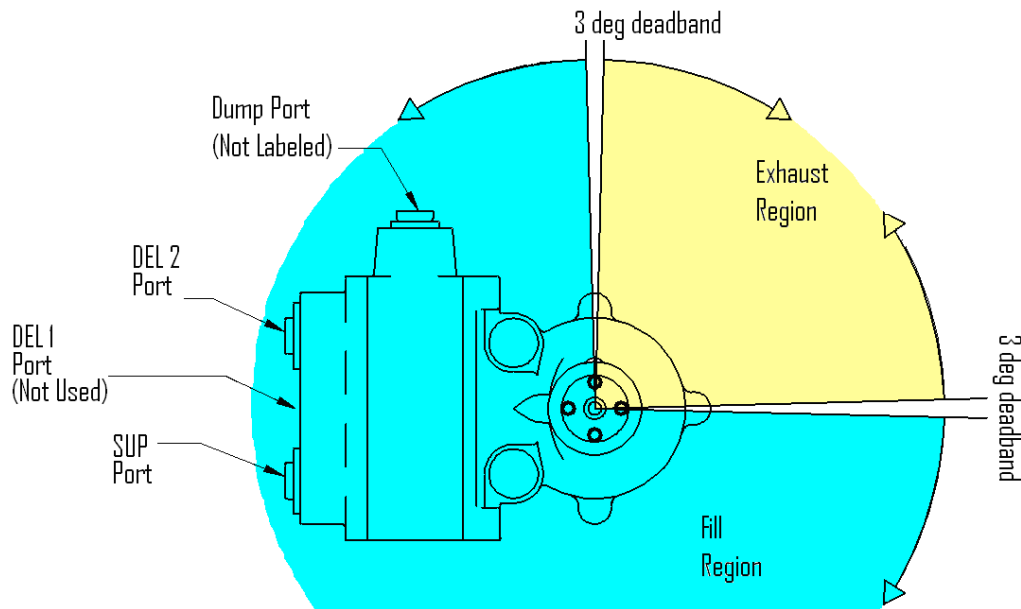

Figure 1-1
4. To ensure HCV is working properly, disconnect the linkage from the control arm and raise the control arm approximately 20° above horizontal. Air pressure should inflate the air springs and raise the suspension. **Refer to Figure 1-1.**
Refer to Figure 1-1.